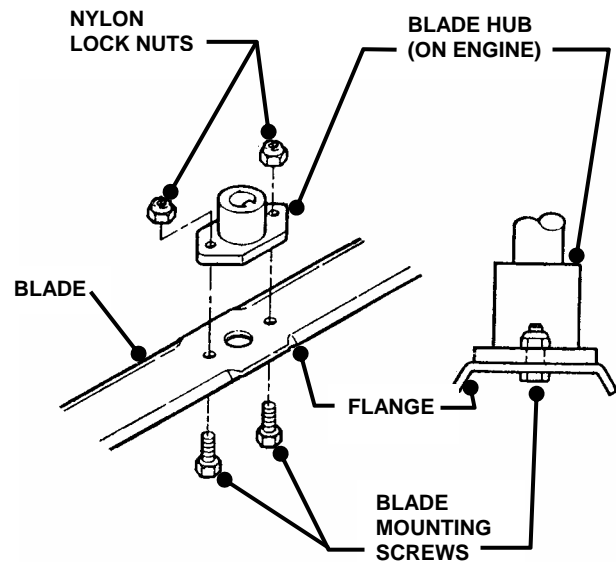

FIGURE 4.2
3. Remove blade. See Figure 4.2.
6. Reinstall blade. See Figures 4.2 & 4.3. Check torque of blade retaining cap screw. Recommended torque should be 30 to 40 ft. lbs.